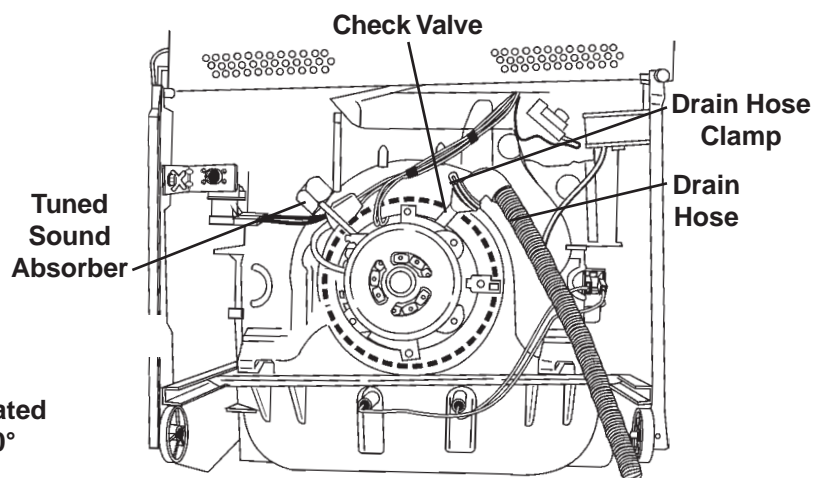

Fig. 2-8
4. Remove the drain hose and clamp from the check valve and unscrew the check valve from the pump. (Fig. 2-8)